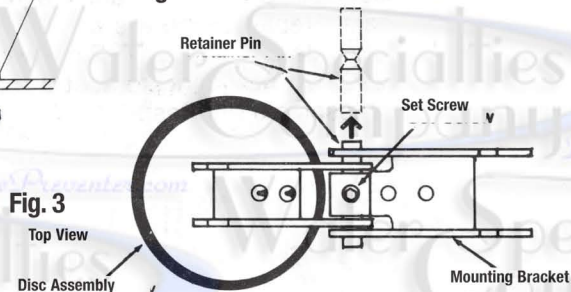

Fig. 3
4. Reach in through the access opening and remove the entire clapper assembly. Opening the clapper assembly and laying it flat on a table (refer to Fig. 3).
**Important:** Each repair kit fits (1) one check module. Only order two of the same kit for complete service.